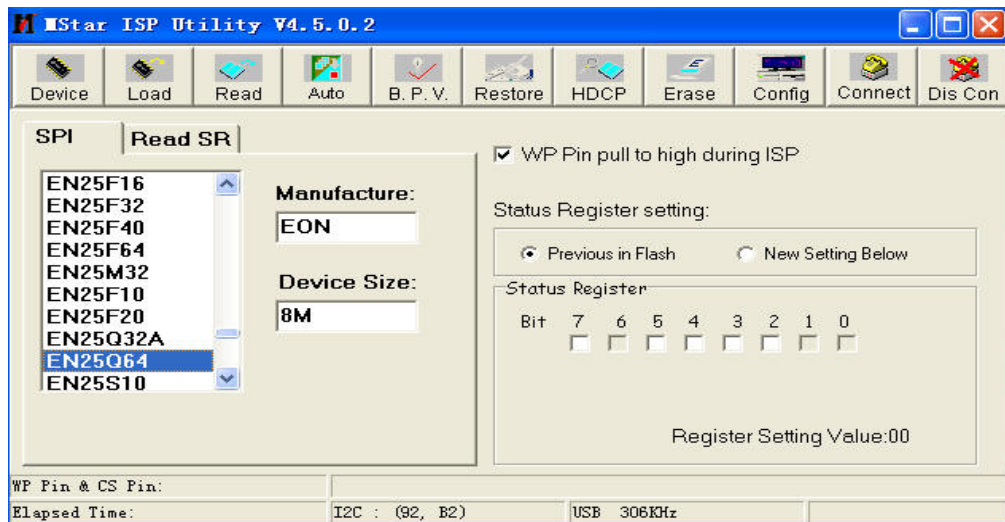

Fig. 2 Write-protect setup
2) Use on-line burning tool of **Mstar**, enter into menu “**Device**”, select item “**WP Pin pull to high during ISP**” as **Fig. 2**; for the normal erasing process, make sure hardware write-protect of **Flash** is canceled;